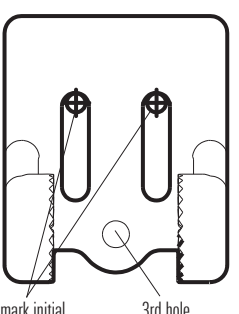

Figure 15
- Continue to hold the bracket on the transom of the boat, and use a pencil or marker to mark where to drill the two mounting holes. Mark the drill holes near the top of each slot, making sure that your mark is centered in the slot (Figure 15).